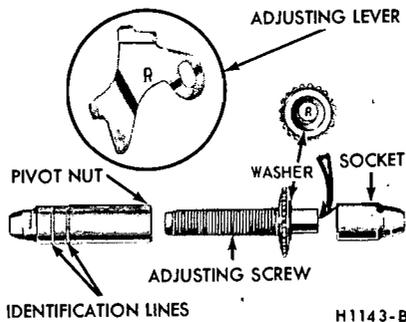

FIG. 18—Adjusting Screw and Lever Identification
Interchanging the brake shoe adjusting screw assemblies from one side of the car to the other would cause the brake shoes to retract rather than expand each time the automatic adjusting mechanism operated. To prevent accidental installation of the adjusting screw on the wrong side of the car the socket end of the adjusting screw is stamped with an R or L (Fig. 18). The ad-
9. Hook the cable hook into the hole in the adjusting lever. The adjusting levers are stamped with an R or L to indicate their installation on a right or left brake assembly (Fig. 18).